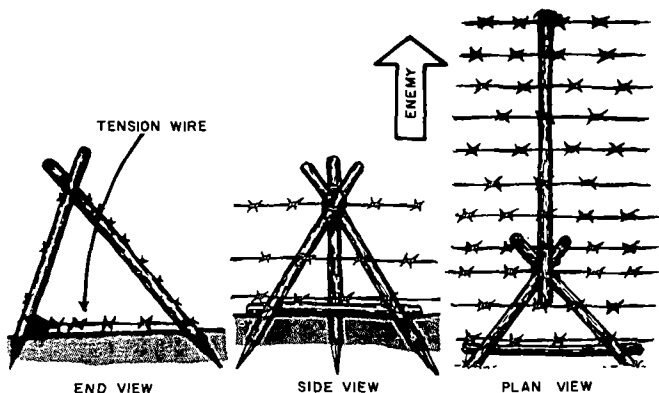

Figure 156. Trestle apron fence.
g. Trestle Apron Fence. The trestle apron fence (fig. 156) has inclined crosspieces spaced 5- to 6-meter intervals to carry longitudinal wires on the enemy side. The rear ends of the crosspieces are carried on triangular timber frames which are kept from spreading by tension wires on the friendly side. The crosspieces may be laid flat on the ground for tying the longitudinal wires in place and then raised into position on the triangular frames. The frames are tied securely in place and held by tension wires. The fence should be sited in such a way that it can be guyed longitudinally to natural anchorages and pulled taut.